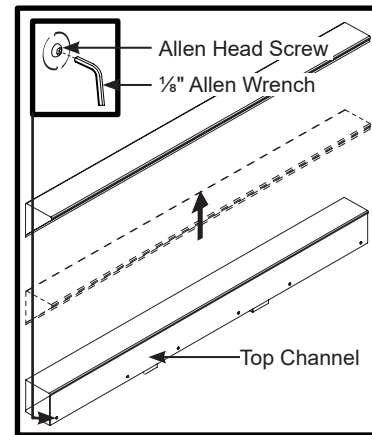

Fig. 13
1. Remove the cover from the Top Channel using a $\frac{1}{8}$ " Allen wrench (Figure 13).